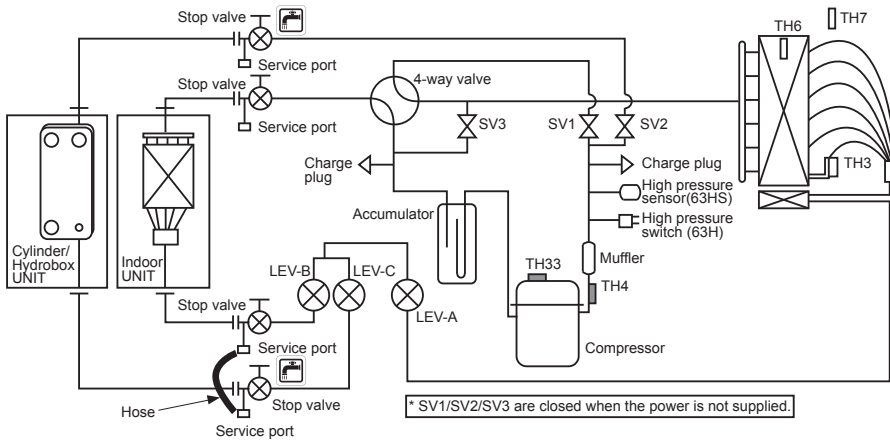

Fig. 8-3
8.3. Refrigerant collecting (pump down) (Fig. 8-3)